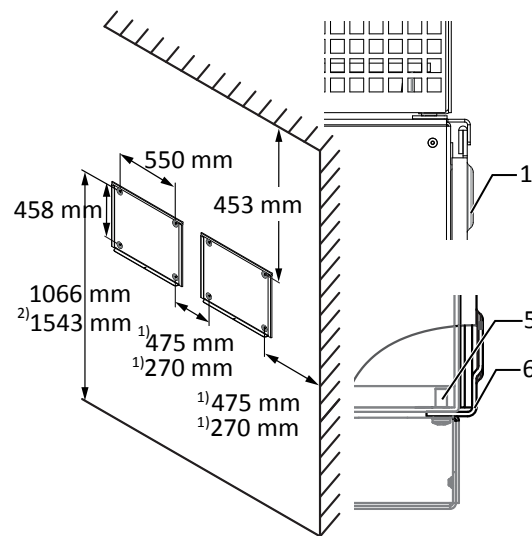

Fig. 15: Wall mounting
- Minimum clearances to be observed during installation: [See figure 15] [▶ Page 18]
2 Fit the device onto the upper mount by means of the mounting bracket. Fit the device onto the lower mounting bracket in full so that the device sits flush with its rear side on the mount ([See figure 15] ▶ Page 18).